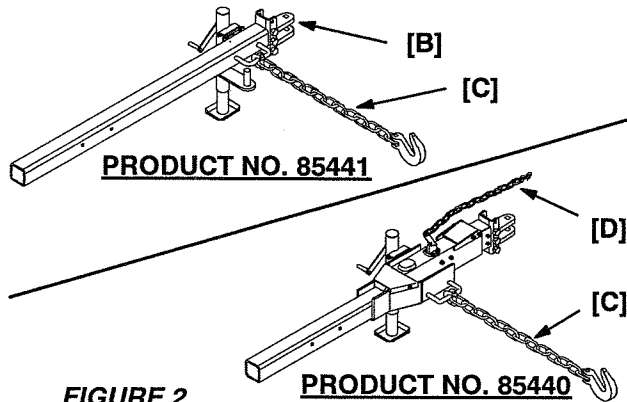

FIGURE 2
STEP 3. (See Figure 2) Align the tractor to the CR-10 tongue and clevis hitch [B] and insert a 1” (25.4 mm) hitch pin. The height of the tractor hitch should be set so that the lower frame of the CR-10 unit sets level with the ground.
STEP 4. (See Figure 2) Attach the safety chain [C] and the "Break-Away" safety chain [D] for the brakes (if equipped) to the tractor.